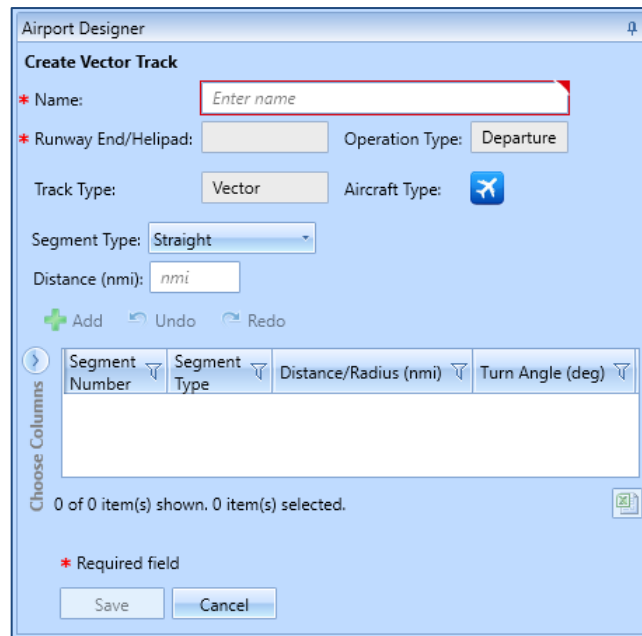

Figure 9. Create Vector Track Pane
3. The *Create Vector Track* pane will show in the lower right-hand corner. Note that the fields marked with a red (*) are required (Figure 9).